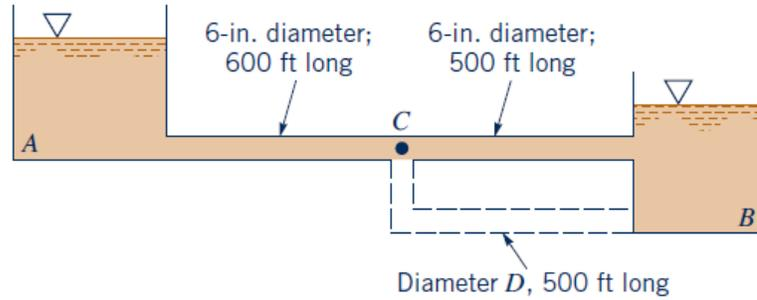

Fig. 7
11. The flowrate between tank A and tank B shown in Fig. 7 is to be increased by 30% (i.e., from  $Q$  to  $1.30Q$ ) by the addition of a second pipe (indicated by the dotted lines) running from node C to tank B. If the elevation of the free surface in tank A is 25 ft above that in tank B, determine the diameter,  $D$ , of this new pipe. Neglect minor losses and assume that the friction factor for each pipe is 0.02.